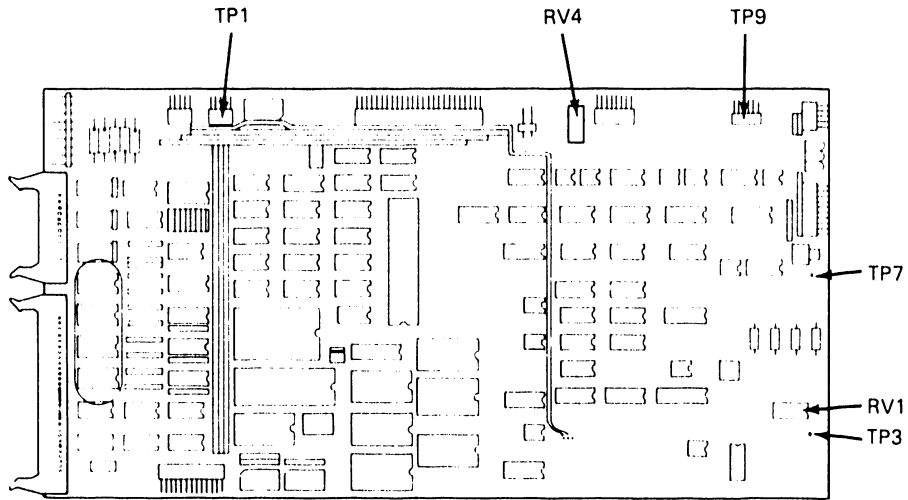
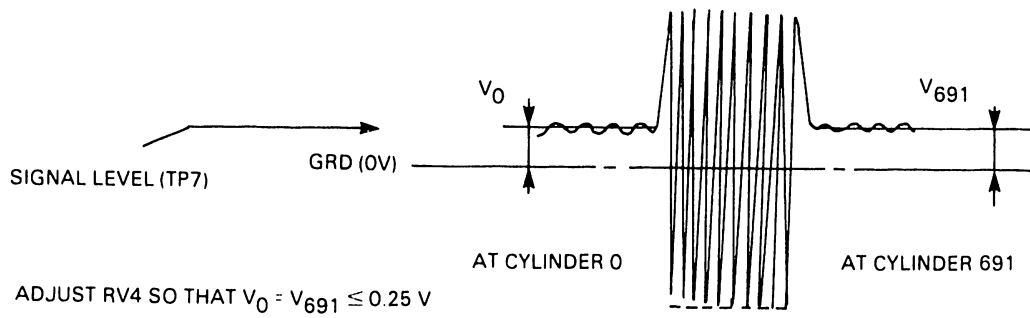

Figure 5-1 Servo Offset and Seek Speed Adjustment Test Points
Figure 5-2 Servo Offset Waveform
4. Connect TP9 to ground (see Figure 5-1).
8. Adjust potentiometer RV4 (see Figure 5-1) to achieve the signal levels shown in Figure 5-2.